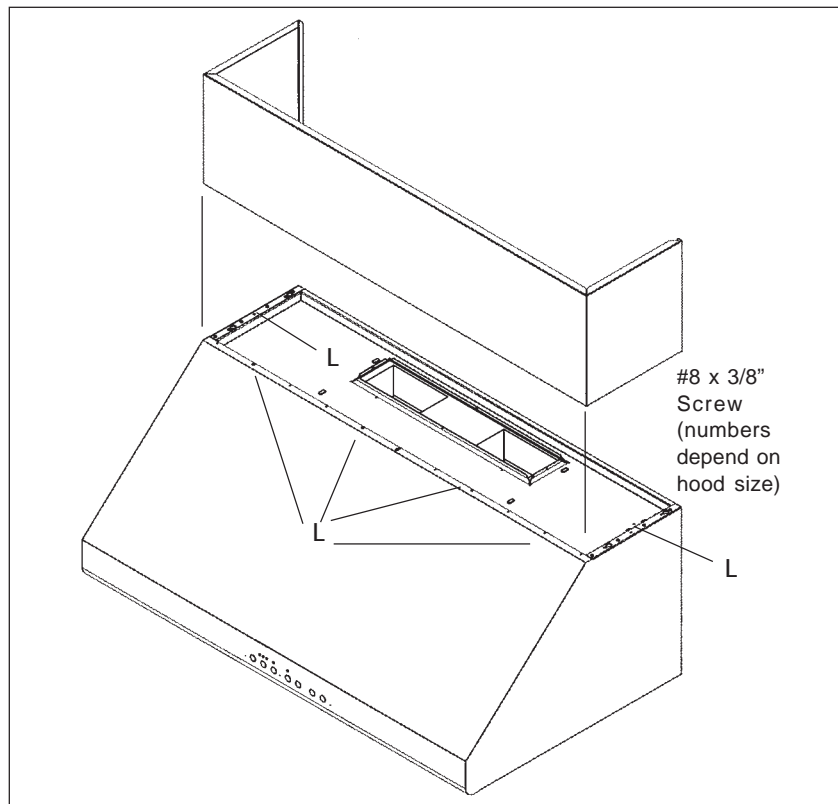

Figure 9
Optional duct covers shown in Figure 9 may be used to fill the space between the hood and ceiling in wall mount installations. 6" and 12" high duct covers are available and may be ordered separately.
- Attach the duct cover(s) to the hood using sheetmetal screws as shown in Figure 9.
- From inside of hood, insert screws supplied (#8 x 5/8") through holes L, one (1) on each side and four (4) along the front, into bottom of the cabinet.